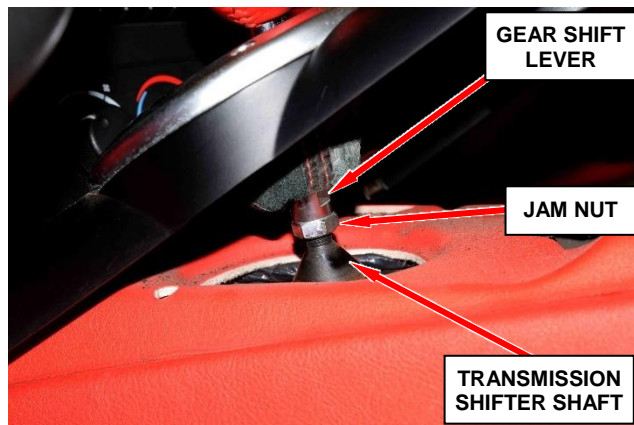

Figure 5 – Gear Shift Lever Jam Nut
10. Reach under the center console bezel to loosen the jam nut that retains the gear shift lever to the transmission shifter shaft (Figure 5).